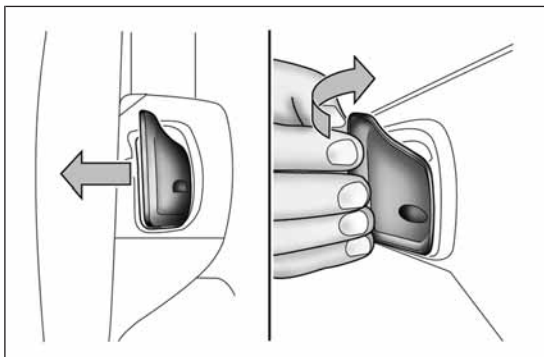

fig. 9
- ☐ steering wheel lever + (pulling lever towards driver fig. 9): engage higher gear;
- ☐ steering wheel lever - (pulling lever towards driver fig. 9): engage lower gear.